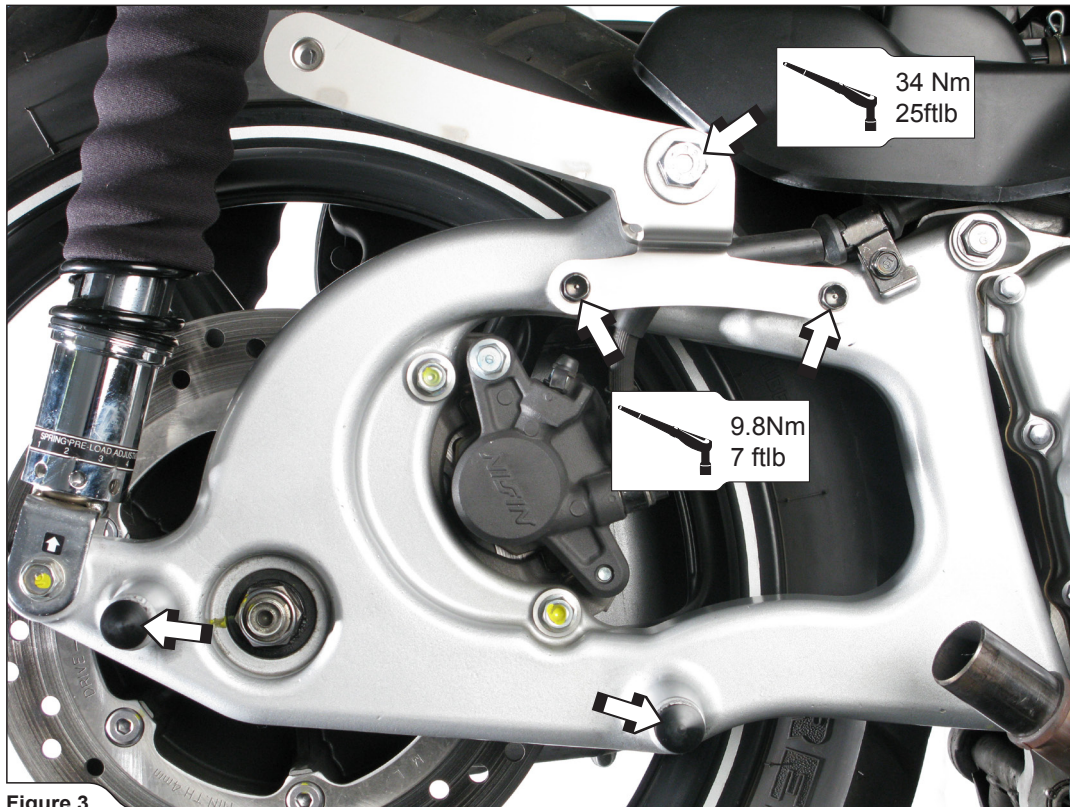

Figure 3
1. Install the Akrapovič muffler bracket onto the swing arm as shown, using original bolts (M6) and Akrapovič bolt and washer (M10). Tighten the bolts to a specified torques. Insert the Akrapovič PVC plugs into the stock muffler's mounting holes, use rubber mallet to tap the plugs into place (**Figure 3**).